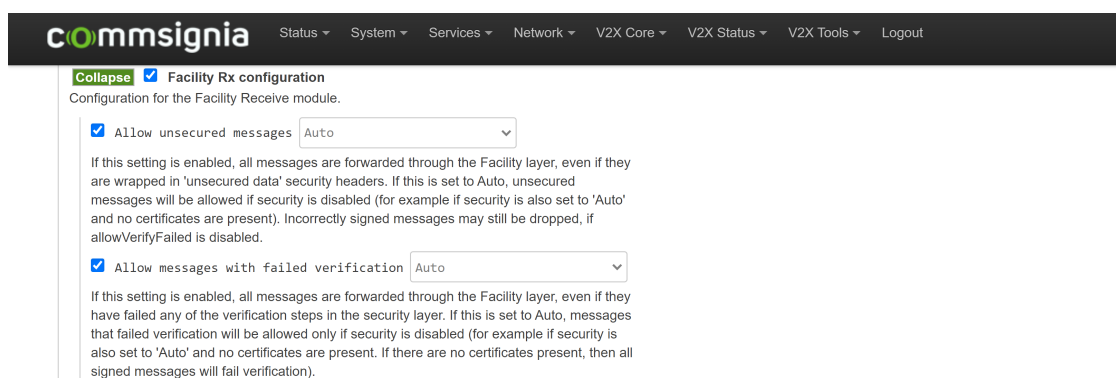

Figure 40. Facility receive module configuration
4. Optional security settings for transmitting messages are available by expanding the **Facility Rx configuration** item and selecting the checkbox next to it as shown in Figure 40.